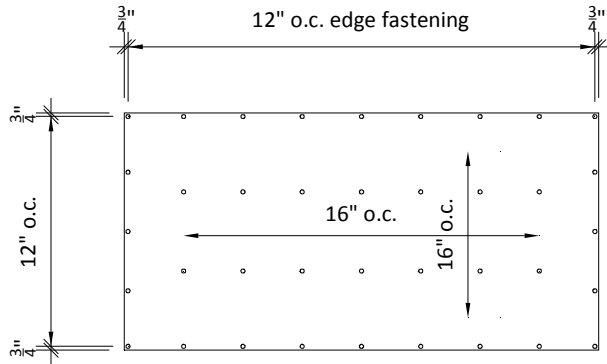

Fig. 6 - Fastener Spacing Diagram
3. Fastener spacing is typically 12" on center along all edges of the panel and 16" on center throughout the middle of the panel. To ensure that the edges do not become damaged fasteners should remain a minimum 3/4" from panel edges. See fig. 6